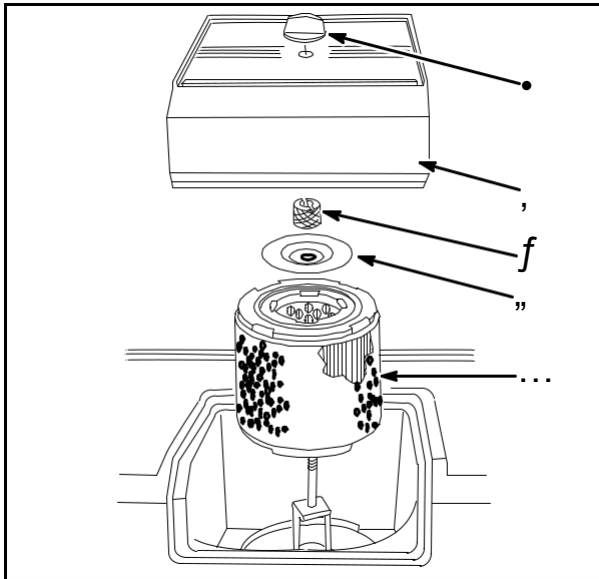

Fig. 1
Remove air cleaner knob (1) and cover (2), **Fig. 1.**